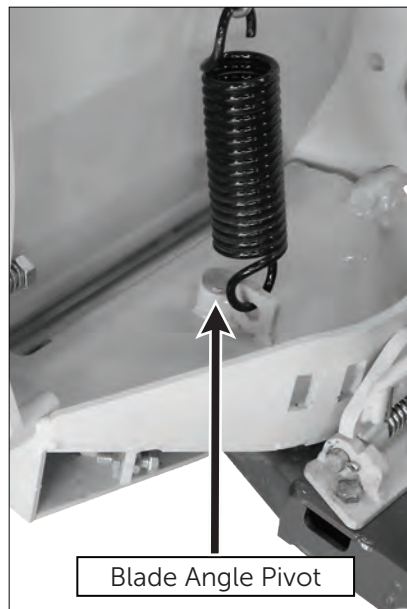

Figure 7.1
- Blade angle pivot (figure 7.1)